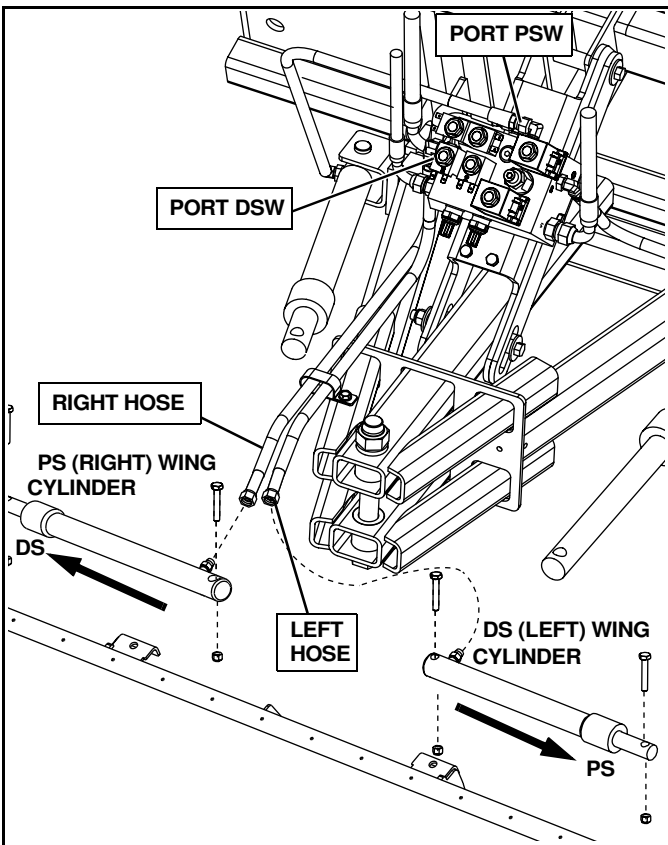

Figure 2-19
5. 29R SKD ONLY: Connect the hydraulic hose from port marked PSW on the valve block to the right (passenger side) wing cylinder. Connect the hose from port marked DSW on the valve block to the left (driver side) wing cylinder (See Figure 2-19)